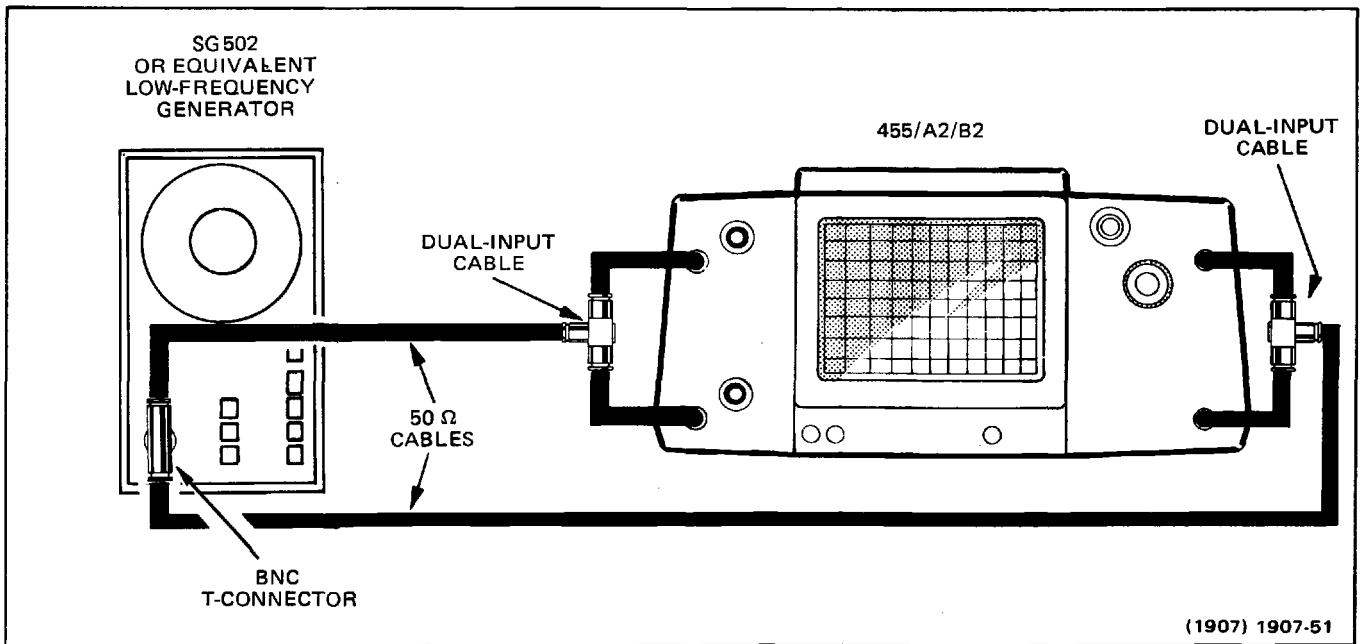

Fig. 3-4. Low-frequency generator test setup.
b. Connect low-frequency generator as shown in Fig. 3-4.